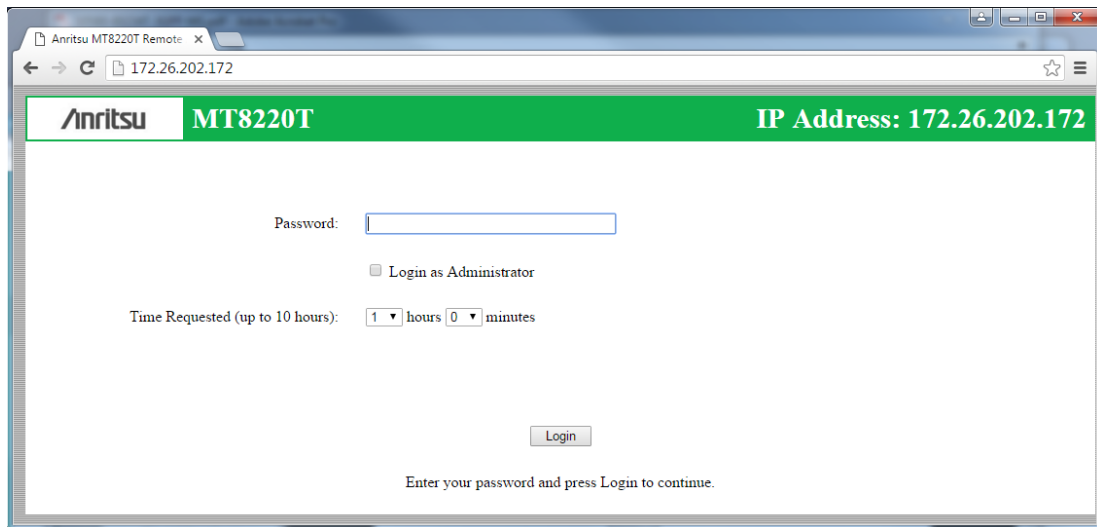

Figure 8-1. Login Page
7. Enter the instrument IP address in the browser address bar to open the Web Remote Control Login page illustrated in Figure 8-1 on page 8-3.
9. Enter the instrument IP address in the browser address bar to open the Web Remote Control Login page illustrated in Figure 8-1 on page 8-3.
The Web Remote Control Login page opens following browser connection to the instrument. See Figure 8-1. The page may show or hide certain elements depending on device management options set by the Administrator, as described in “Device Options” on page 8-11.